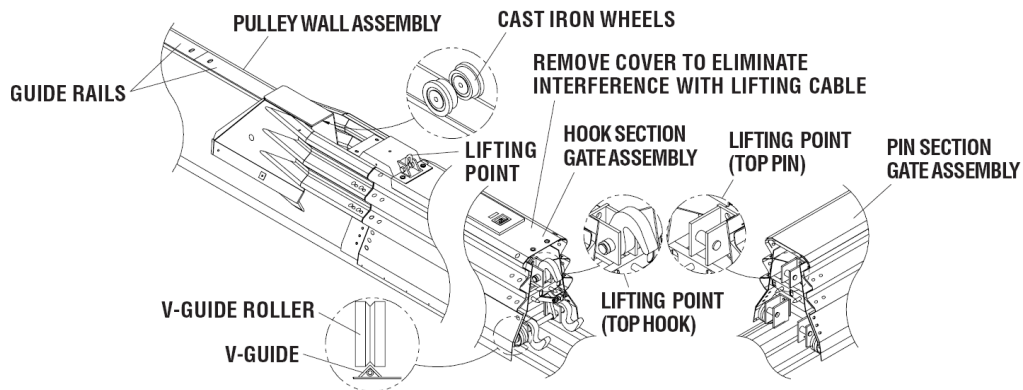

Figure 20
Also remove the covers over the Hook and Pin Bulkheads to eliminate interference with the lifting cables (Figure 20).
- 2) Use a crane or forklift to lift the Pin Section Gate Assembly over the Capstan Wall Assembly and the Hook Section Gate Assembly over the Pulley Wall Assembly (Figure 20).